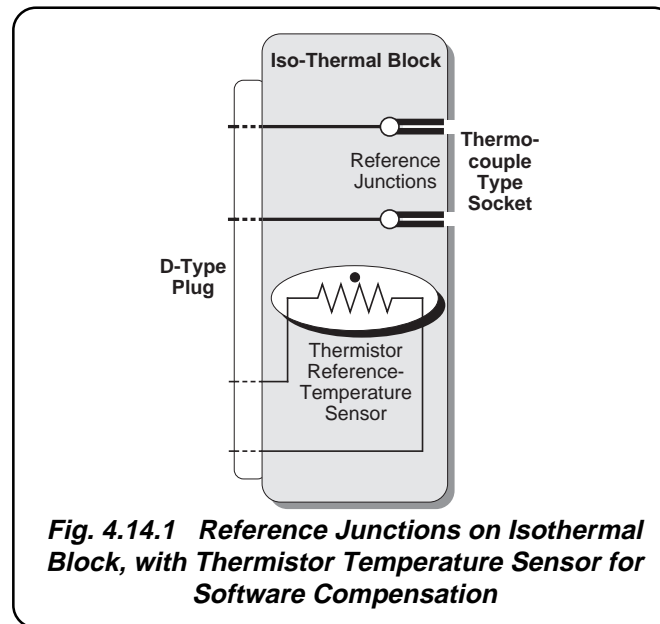

Fig. 4.14.1 Reference Junctions on Isothermal Block, with Thermistor Temperature Sensor for Software Compensation
4.14.4.2 Software Compensation (Fig 4.14.1)